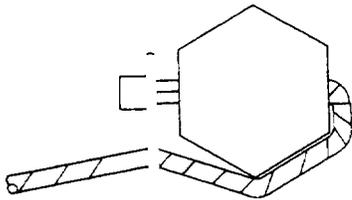

Figure 2-86. Self Looping Safety Cable in High Bend Exit Application
(11) In applications where safety cable shall be required to exceed the 1350 maximum bend exit limit in order to achieve neutral to positive pull on a threaded fastener head, a self looping device which is secured to the safety cable by the safety cable manufacturer may be used to obtain a secured installation as shown (figure 2-86).